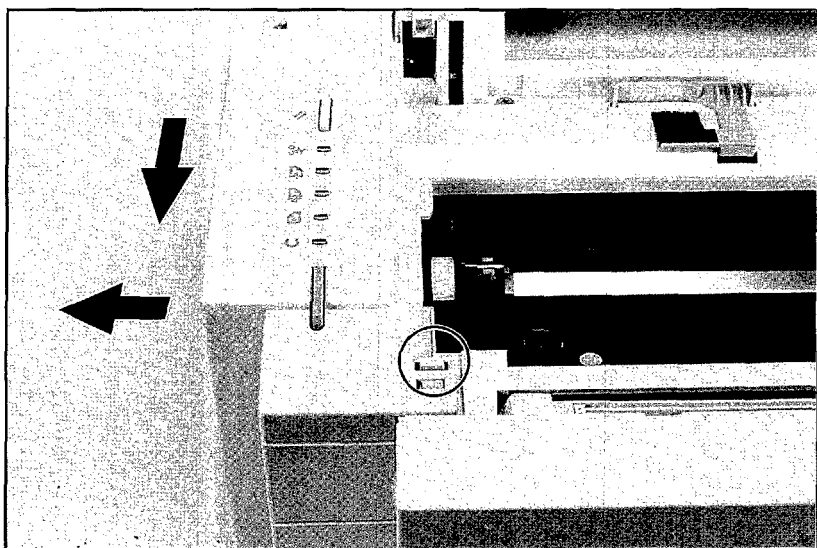

Figure 14 Left Side Cover Release Latch
3. Press the removable side panel release latch shown in Figure 14.